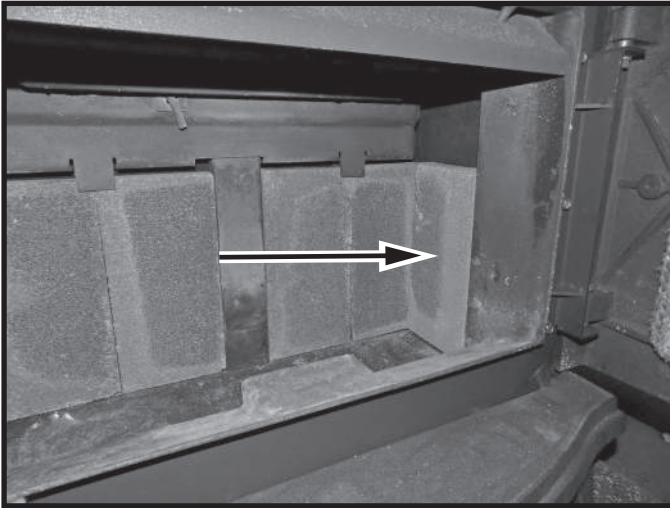

Figure 25: Full sized brick (C) on side wall.
3. Place one full sized brick upright against each of the side walls (Figure 25).